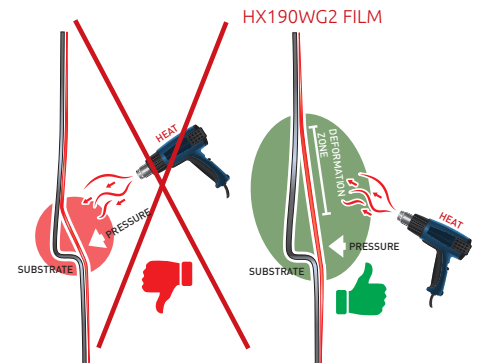

Figure 06
- › Apply the stretched vinyl over the substrate so as to have it stick only to the peaks of the undulation. (FIG. 06)